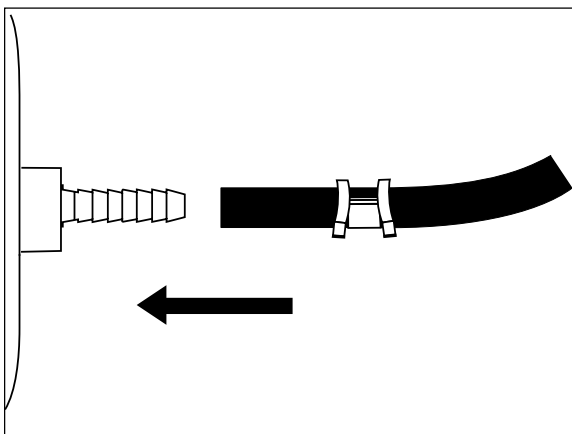

Figure 5
- C. Connect the air line to the two opposite legs on the tee (Figure 5).
- E. Slide air line clamp onto the air line. Push the air line over the barbed end of straight fitting. Compress the ears on the air line clamp with pliers and slide it down to cover the barbed section (Figure 5). Repeat for other side.
- C. Slide air line clamp onto the air line. Push the air line over the barbed end of straight fitting. Compress the ears on the air line clamp with pliers and slide it down to cover the barbed section (Figure 5). Repeat for other side.
8. It may be necessary to maintain different pressures on each side of the vehicle. Loads such as water, fuel, and appliances will cause the vehicle to be heavier on one side (fig. 5). As much as a 50 PSI difference is not uncommon.